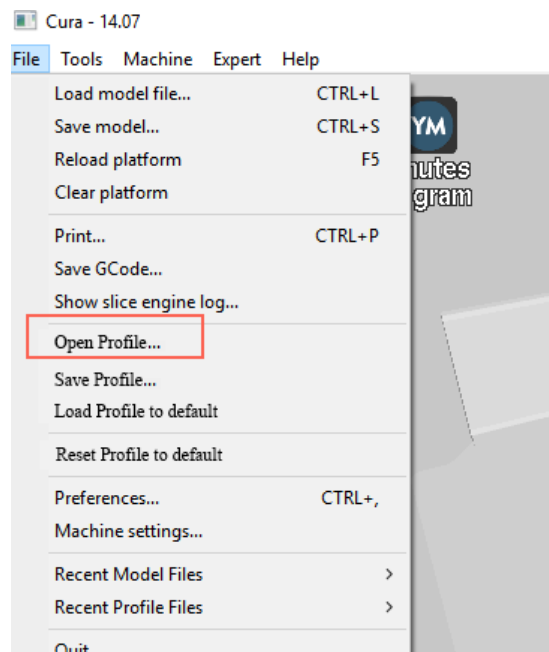

Figure 5.134 Import slice parameters
- Set slice parameters, and select **File > Open Profile** to import these parameters, as shown in Figure 5.134.